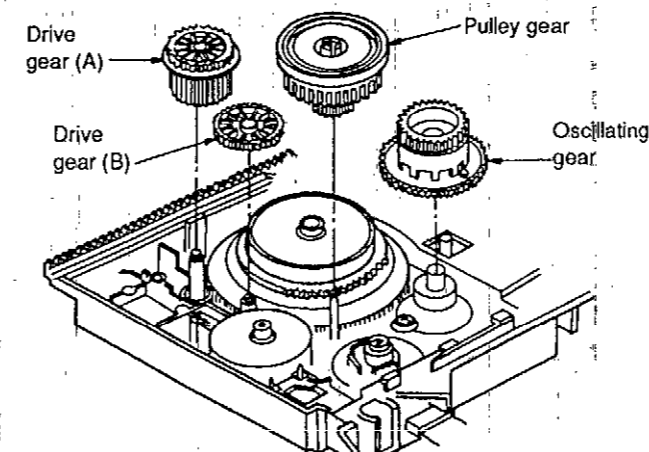

Fig. 5
8. Install the drive gear (B), the drive gear (A), the oscillating gear ass'y and the pulley gear. (See Fig. 5)